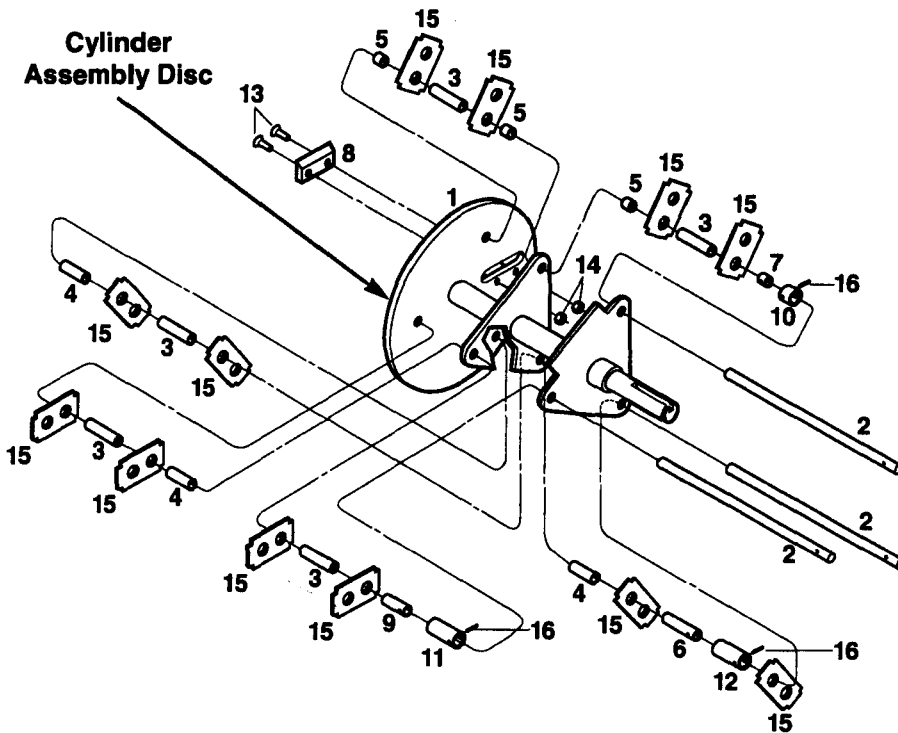

Figure 5-5A
- Feed one cylinder pin into the cylinder assembly with the correct spacers and shredder blades in the proper order and placement. Refer to the Parts List, or to Figure 5-5A, if you are unsure about the proper order and placement of the cylinder assembly parts. Slide the pre-assembled spacer/sleeve/roll pin assembly onto the end of the cylinder pin.